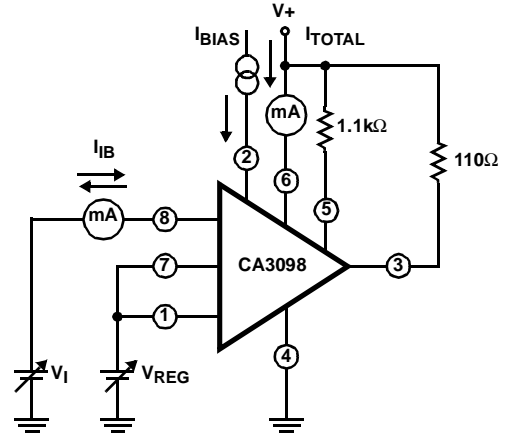

FIGURE 3. TOTAL SUPPLY CURRENT, AND INPUT BIAS CURRENT TEST CIRCUIT
- For definition of V_{REG} see Figure 3.
- Continuous (DC) output current must be limited to ≤40mA. For 100mA output current, the duty cycle must be ≤40%.
NOTE: See Figure 3 for definition of V_{REG}